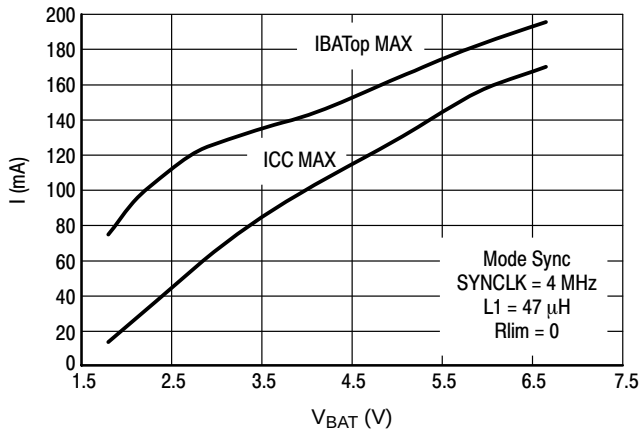

Figure 2. Maximum Battery and Card Supply Current vs. V_{BAT} ($V_{CC} = 5.0$ V)
- See Figures 2 and 3.
4. See Figures 2 and 3.